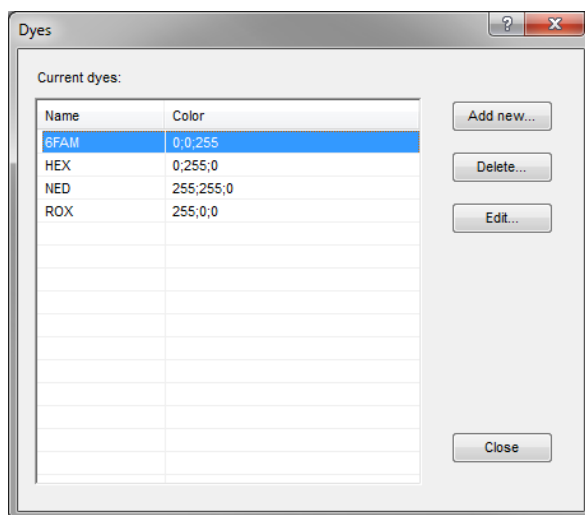

Figure 3.6: The *Dyes* dialog box.
4.1 Select **HDA > Edit dyes** to call the *Dyes* dialog box (Figure 3.6).